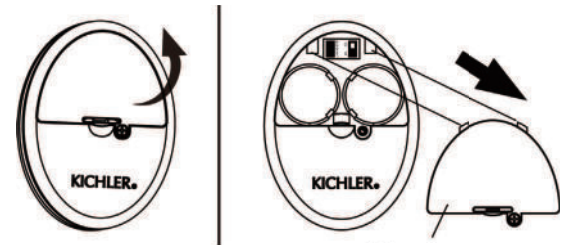

Fig. 26
Step 1. Using a screwdriver, remove the battery cover from the handset and save the screw for later use. (Fig. 26)